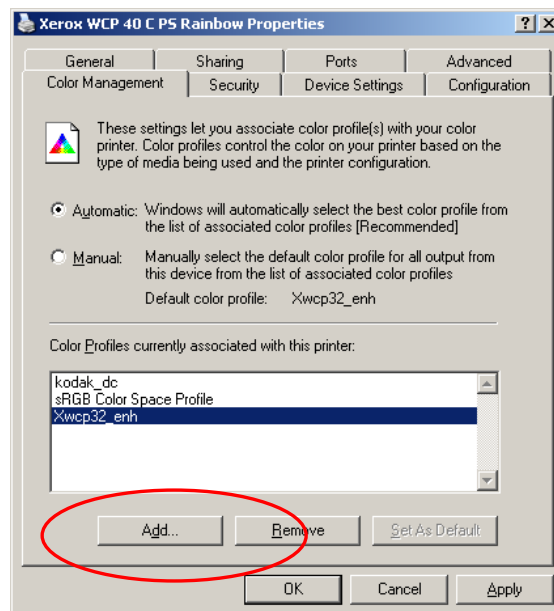

Figure 4. Adding Color Profiles through Color Management
To import color profiles (See Figure 4):
- High end users (for example: print shops) may use applications and workflows based on the International Color Consortium (ICC) standards. If color profiles are applied by the applications in your workflow, set **Color Correction** to "None" and do not associate any color profiles to the printer using **Color Management**. Otherwise double rendering can occur. If you have residual profiles left from previous workflows, remove them using the "Delete" button found on the **Color Management** tab (See Figure 4 earlier in this document).